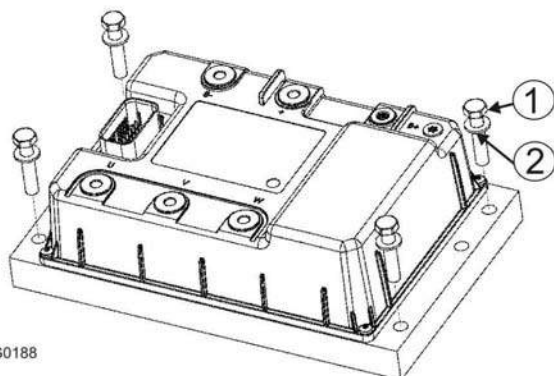

Figure 10. Installing flat heatsink AC SuperDriv
2. Install AC SuperDrive to the vehicle body Figure 10 and tighten selected bolts (OEM supplied) slightly to the vehicle body.